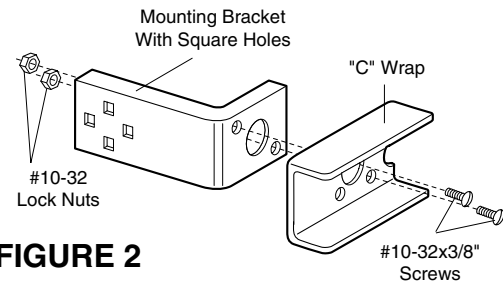

FIGURE 2
Figures 2 and 3 show assembly of brackets and "C" wrap based on the recommended installation of the sensors as shown on page 1. Figures 4 and 5 are variations which may fit your installation requirements better. **Make sure the wraps and brackets are aligned so the sensors will face each other across the garage door.**
- Fasten the "C" wraps to the mounting brackets having square holes, using the hardware shown in Figure 2.